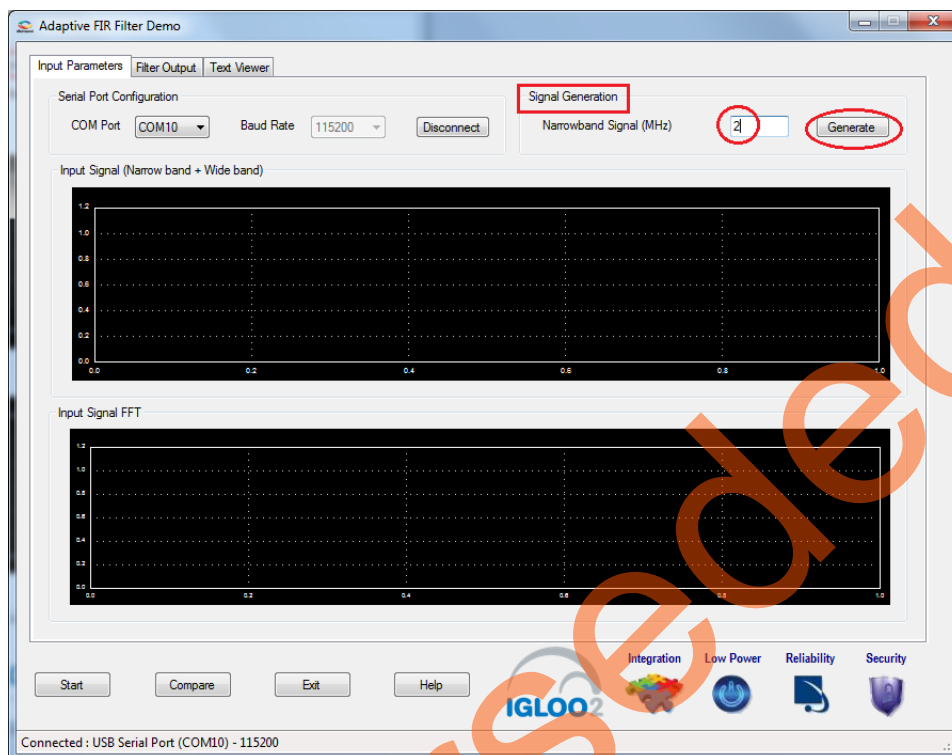

Figure 14 • Signal Generation
3. **Signal Generation:** Enter the narrow band signal frequency as 2 MHz (supported range is 1 MHz and 20 MHz) and click **Generate**. Refer to Figure 14.